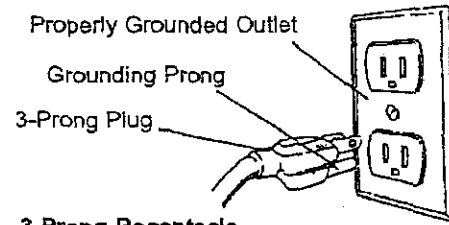

Figure 2 - 3-Prong Receptacle
- This tool is equipped with an approved 3-conductor cord rated at 150V and a 3-prong grounding type plug (see Figure 2) for your protection against shock hazards.
- Grounding plug should be plugged directly into a properly installed and grounded 3-prong grounding-type receptacle, as shown (Figure 2).